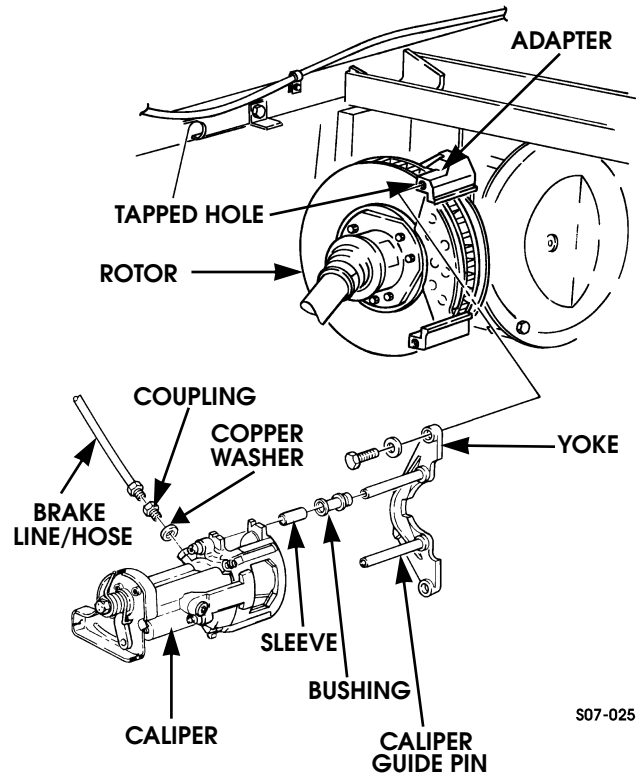

Figure 7-25: Rear Brake Components
2. Apply thread-locking compound to threads of caliper guide pins and install caliper guide pins in yoke. Tighten caliper guide pins to 30 lb-ft (41 N•m) (Figure 7-25).